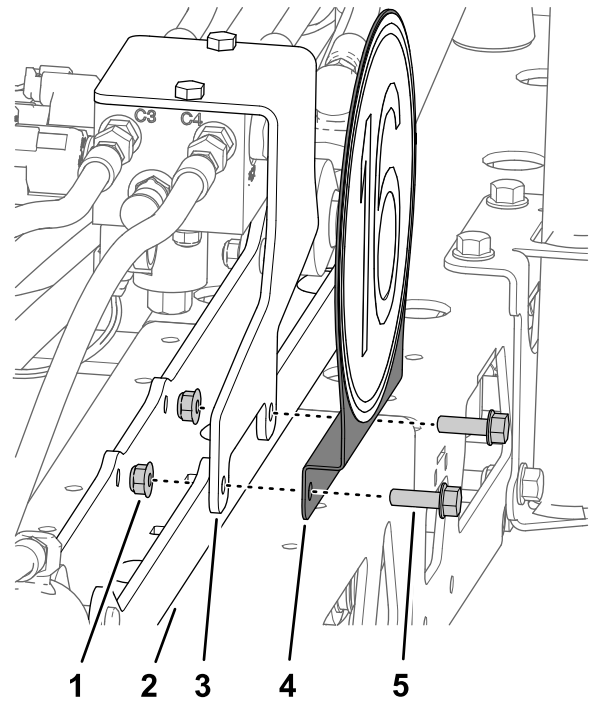

Figure 51
4. Remove the 2 flange-head bolts (5/16 x 1 inch) and 2 flange locknuts (5/16 inch) that secure the bracket for the lift-cylinder manifold bracket to the lift-cylinder mount (Figure 51).
5. Align the holes in the speed-sign bracket, lift-cylinder manifold bracket, and lift-cylinder mount (Figure 51).
6. Assemble the speed sign bracket to the cylinder manifold bracket and lift-cylinder mount (Figure 51) with 2 flange-head bolts (5/16 x 1 inch) with the 2 flange locknuts (5/16 inch).